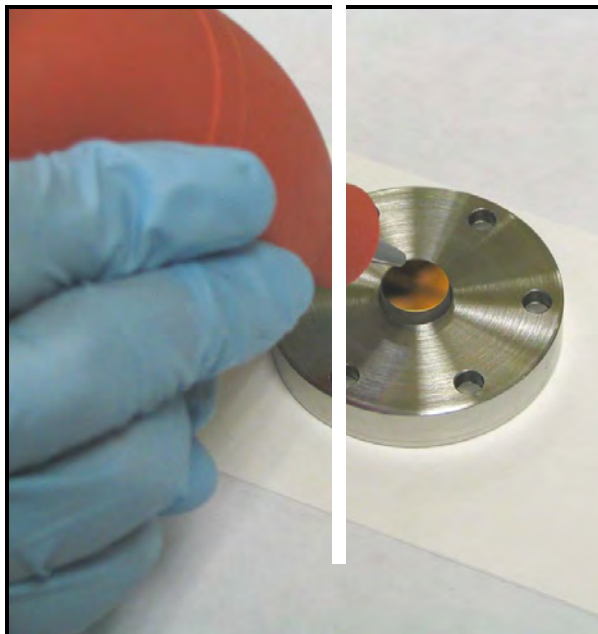

Figure 80: Blowing Air onto the Mirror
6. If the mirror is contaminated, the first step in cleaning it is to use the air blower to blow away any particulate matter on the mirror surface. Place the mirror assembly on a flat surface and repeatedly puff the air blower to force dry clean air onto the mirror surface (see *Figure 80* below).